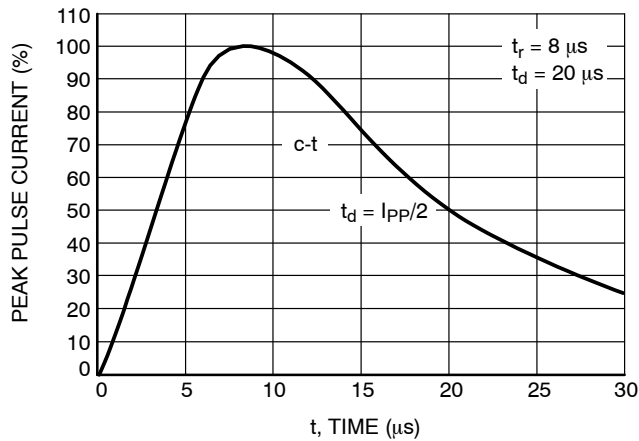

Figure 6. Pulse Waveform (8/20 μs)
1. Non-repetitive current pulse per Figure 6.
- Pulse waveform per Figure 6.